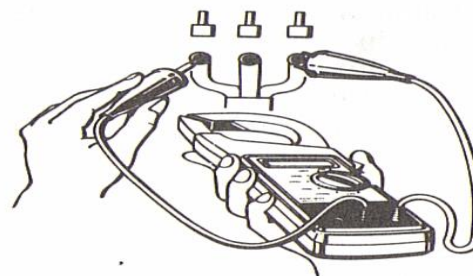

Fig. 3
- (3) Connect the prod tip or alligator clip of the test leads to the circuit under test. (Fig. 3)